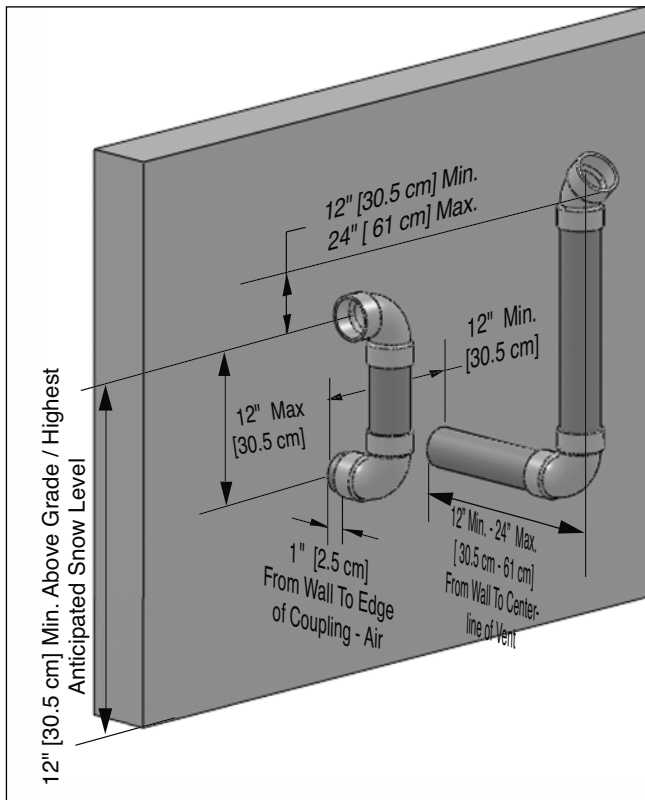

Fig. 12: Direct Vent - Sidewall Snorkel Termination of Vent and Combustion Air Piping with 45° Vent Termination
- Using a 45° elbow as shown in Figs. 12 or 15, page 18.
- Using a 45° elbow as shown in Figs. 12 or 15 page 18.